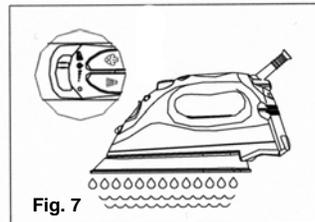

Fig. 7
5. Turn the variable steam control all the way to the right to the self-cleaning position and hold the iron horizontally over the sink. (Fig. 7).